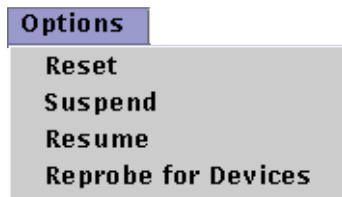

FIGURE 3-9 Options Menu
1. While a test session is running, select the Options button to access the Options menu (FIGURE 3-9).
1. While a test session is suspended, select the Options button to access the Options menu (FIGURE 3-9).